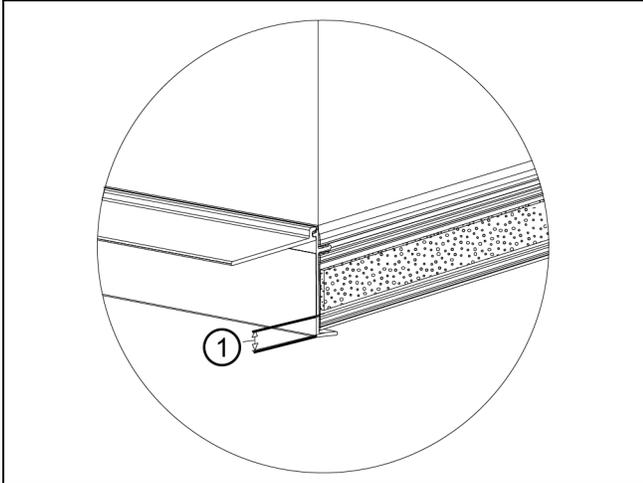

Figure 7
1. Carefully lay units on a flat surface in the desired mulling configuration (interior facing up). Remove nailing fin from side jambs that will be mulled together. Apply mull sealant foam tape the entire length of one jamb to be mulled ensuring it is located 1/4" (6) from the exterior edge of the Ultrex frame. See Figure 7.